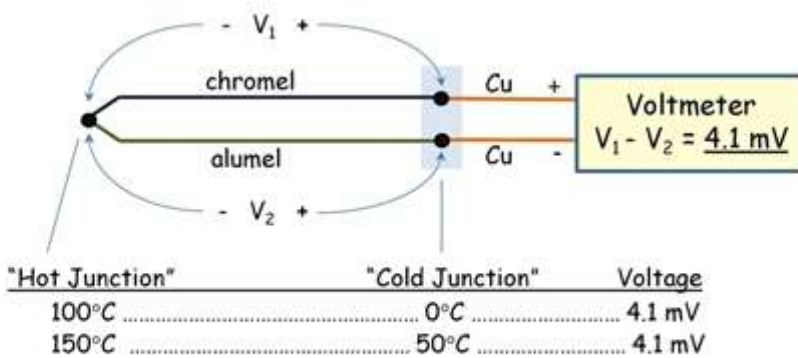

Figure 1. K-type thermocouple (chromel-alumel), $\approx 41 \mu\text{V}/^\circ\text{C}$
- end, figure1. Note that if you try to measure the absolute Seebeck voltage of a single wire with the same metal, your measurement wire generates the same voltage and you measure zero. You can only measure the difference between dissimilar pairs.
Thermocouples measure a *temperature difference*. Note that in figure 1, you measure the same voltage in both example cases. A 100°C temperature *difference* between hot and cold junctions generates 4.1mV. The old-fashioned way to get an *absolute* temperature measurement of the hot end was to immerse the cold junctions in an ice bath (another reason it's called a cold junction). Published thermocouple tables assume that the cold junction(s) are at 0°C.